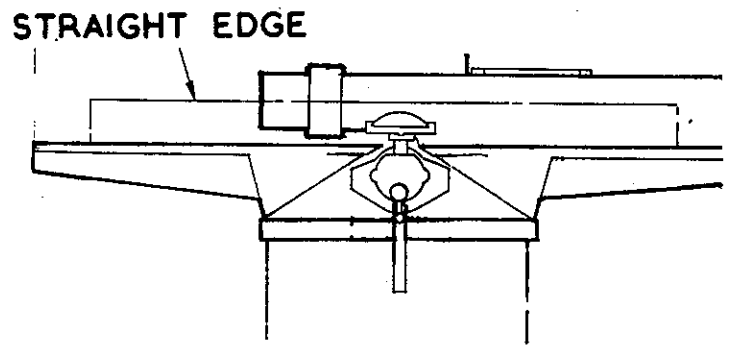

Fig 6
6. To check the setting of the knives raise the back table to its top position i.e. the zero mark on the rule or 1.5mm above the outer surface of the cutterblock. Place a straight edge on the table as shown in Fig. 6 and rotate the cutterblock by hand until the knife just touches the straight edge. Repeat this check in various positions over the width of the table to ensure the knife is parallel. Repeat this procedure for all knives.